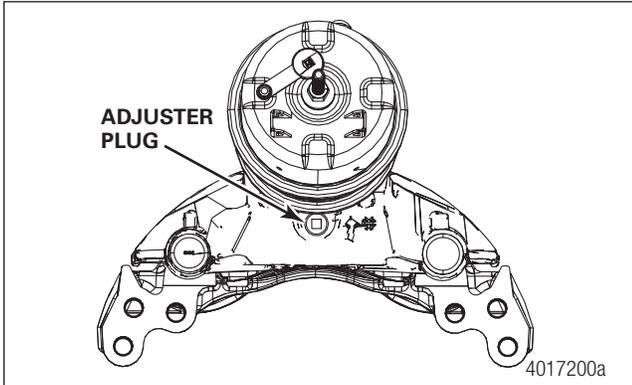

Fig. 6.24 Adjuster Plug
STEP 1 - Remove the adjuster plug. Figure 6.24.